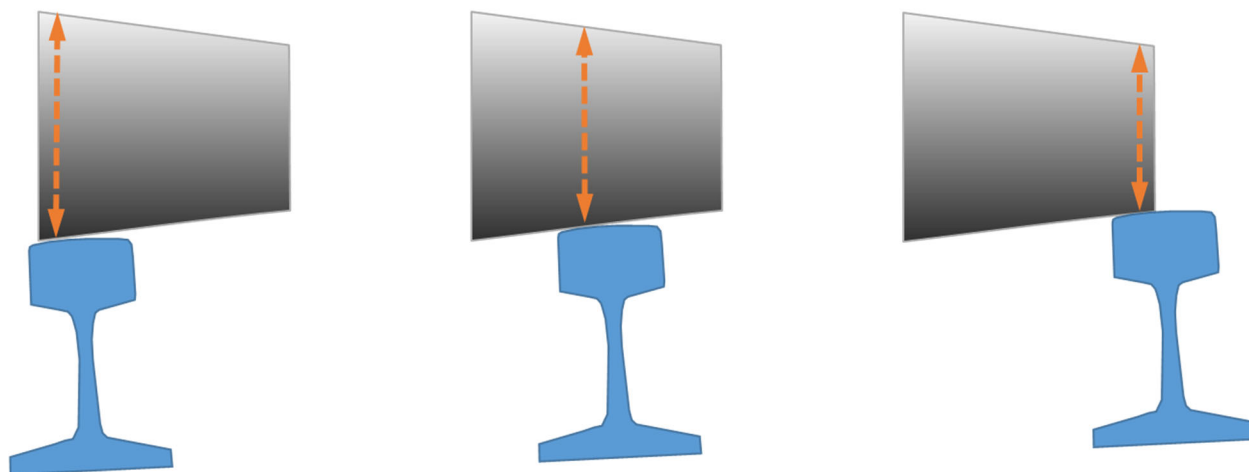

Figure 3: A tapered conical wheel can change its rolling diameter depending on where it contacts the top of the rolling it is rolling on.
13. Using the tapered wheelset model, explain how if a single railroad wheel were made to be tapered/conical, its diameter will change depending on where it sits on top of the rail (Figure 3).